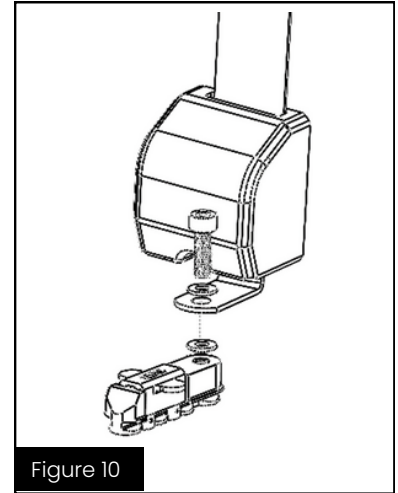

Figure 10
- Fasten retractor base to applicable Fitting using bracket and hardware as shown in Figure 10. Recommended torque = 50 FT/LB (67 N.m.).